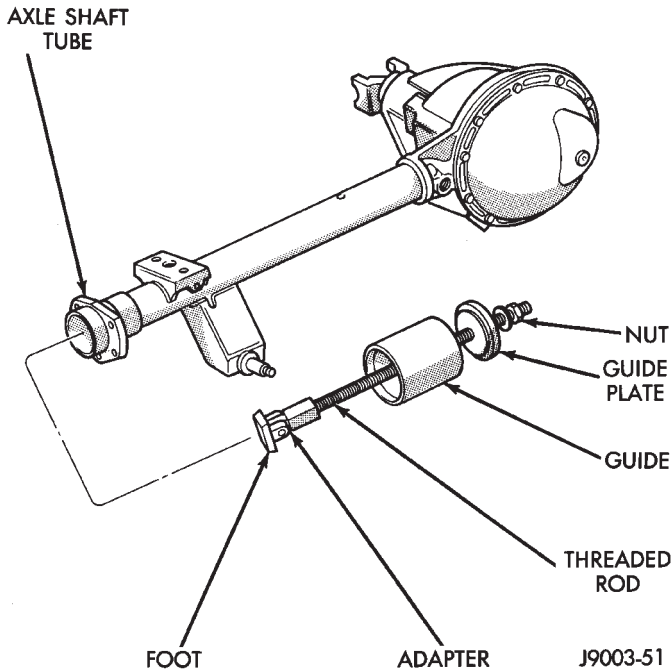

Fig. 13 Axle Shaft Bearing Removal Tool
(4) Remove the axle shaft bearing from the tube (Fig. 13) with Bearing Removal Tool Set 6310.
(5) Inspect the axle shaft tube bore for roughness and burrs. Remove as necessary.